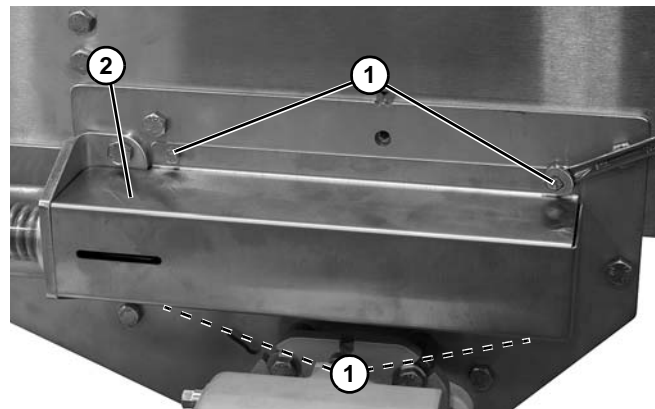

Figure 98
4. Remove four screws (Figure 98, item 1) and cover (Figure 98, item 1).